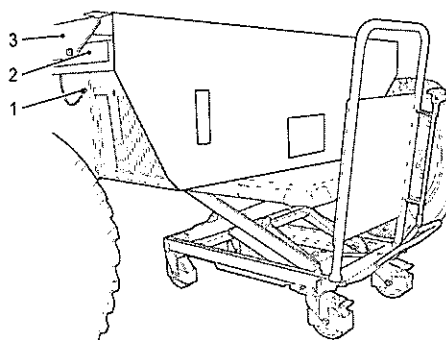

Fig 5 Hydraulic module removal (typical)
- 17.17 Disconnect the earth bonding lead between hydraulic module and vehicle (see Fig 5 (1)).
- 17.18 Support the module with an appropriate scissor lift table (see Fig 5) or jack. Protect the base of the hydraulic module with a piece of wood to prevent damage and/or spread the load of the mechanical handling aid.